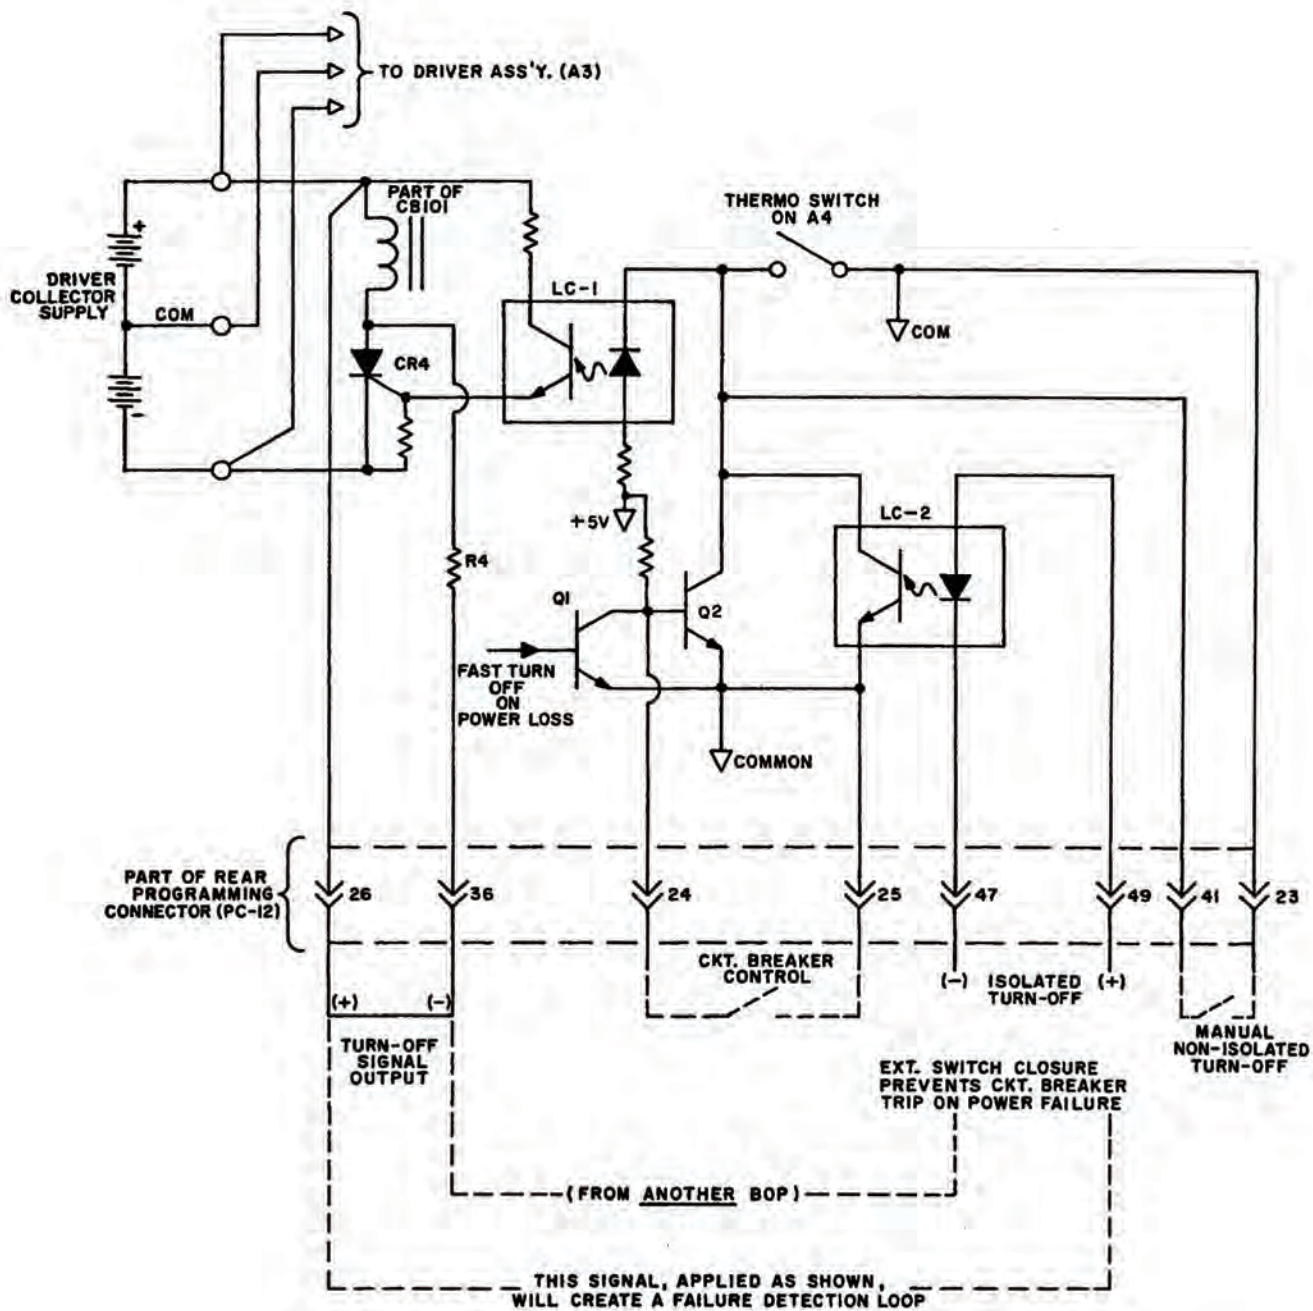

FIG. 3-28 CIRCUIT BREAKER CONTROL CIRCUIT, SIMPLIFIED DIAGRAM.
3-83 THE CIRCUIT BREAKER CONTROL CIRCUIT (REFER TO FIG. 3-28). The BOP is protected by the dual-coil CIRCUIT BREAKER/ON-OFF SWITCH (CB101). The current sensing coil of CB101 is connected in series with the primary winding of T201, thus detecting overcurrents reflected into the primary circuit and subsequently tripping the circuit breaker. The voltage sensing coil of CB101 is connected in series with an SCR (CR4) across the DRIVER COLLECTOR SUPPLY. If the SCR is triggered "on", the voltage sensing coil is energized and trips the circuit breaker. The SCR (CR4) can be triggered in several ways as described in paragraphs 3-83A thru 3-83D.
- D) A manual, non-isolated turn-off is provided which, when implemented with an external switch contact as shown in FIG. 3-28, will energize the diode in the first opto coupler (LC-1), thus providing the SCR turn-on.